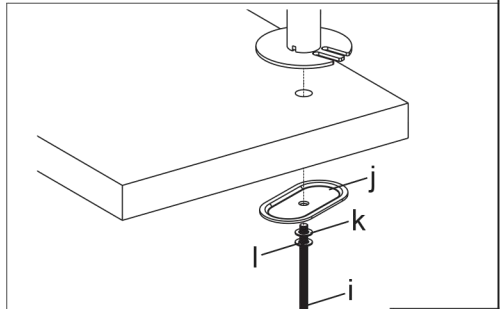

Figure 9
4. Position the Pole(a) on the mounting surface and secure using the Support Plate(j), M10 Washer(k), Spring Washer(l) and M10 Bolt(i). Fasten the M10 Bolt using provided Wrench(p), see Figure 9.